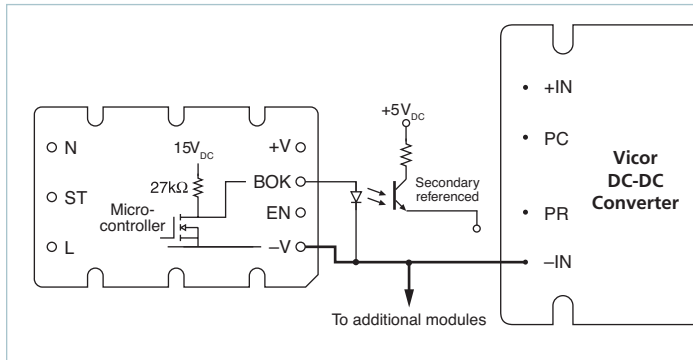

Figure 12 — Bus OK (B OK) isolated power status indicator
Bus-OK (B OK) Pin: (see Figure 12) The Bus-OK pin is intended to provide early-warning power fail information and is also referenced to the negative output pin.
The power fail warning time (Δt) is defined as the interval between (B OK) and converter shut down (EN) as illustrated in Figure 12. The Bus-OK and Enable thresholds are 205V and 190V, respectively. A simplified relationship between power fail warning time, operating power, and bus capacitance is obtained by inserting these constants: